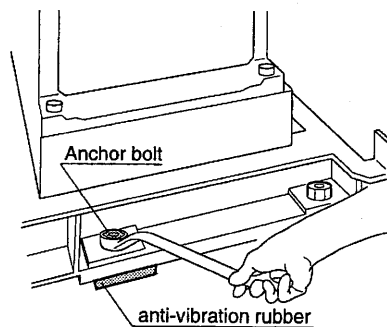

Fig. 48
- (1) Check the anchor bolt and anti-vibration rubber for loosening, breakage, and wear. (Fig. 48)